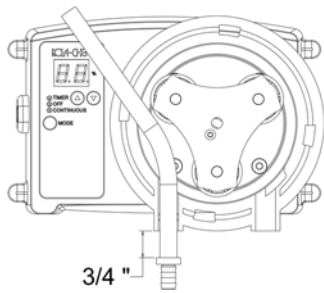

Figure 2
- 4) To install new Pinch Tube, Toggle the MODE Button intermittently between TIMER, OFF and CONTINUOUS positions to move Roller to position as shown in Figure 2 then switch OFF.
- 5) Lubricate Pinch Tube Assembly as noted in OPERATION section 4.1. Lay inlet end (without clamp) in inlet port on left with about 3/4" of Pinch Tube protruding from housing. See Figure 2.